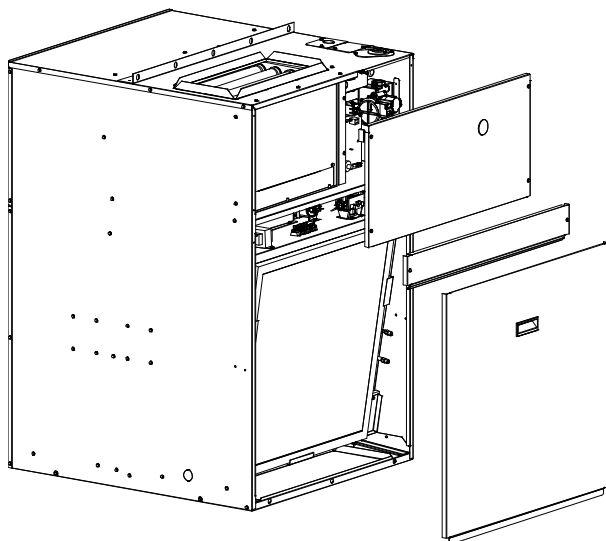

FIGURE 44 – Removal of Control Cover
- 1) Remove screws (2) from controls cover and remove panel. See **FIGURE 44 – Removal of Control Cover**.